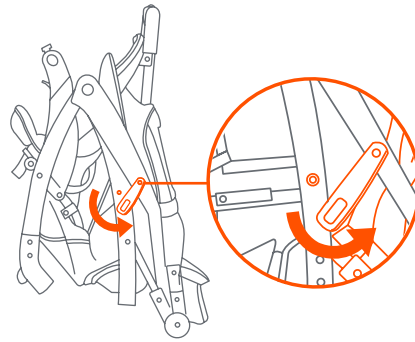
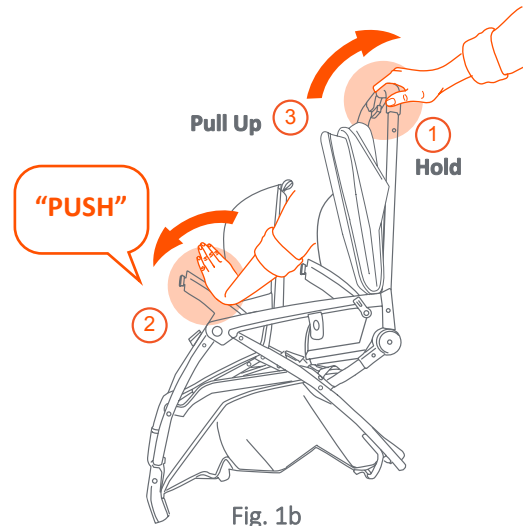

Fig. 1a
Fig. 1b
Pull out and rotate the latch away from the stroller peg (Fig. 1a). **(1)** Use one hand to hold the handle and tilt stroller forward. **(2)** Push the stroller open firmly with the other hand (Fig. 1b).
(3) Firmly pull upward on the stroller handle to completely open the frame (Fig. 1b).